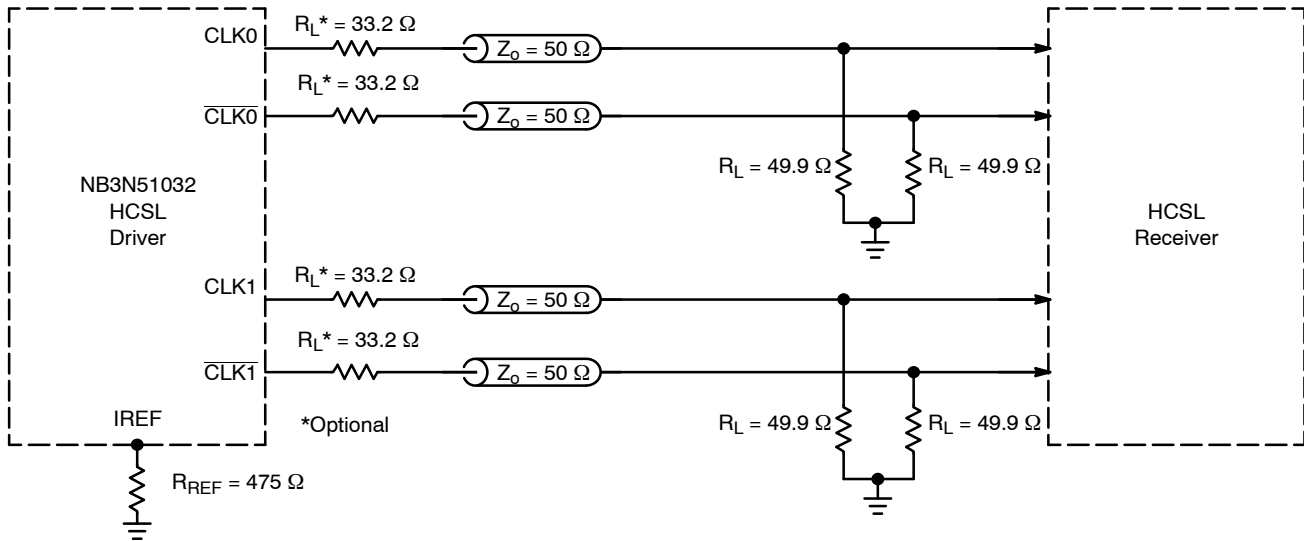
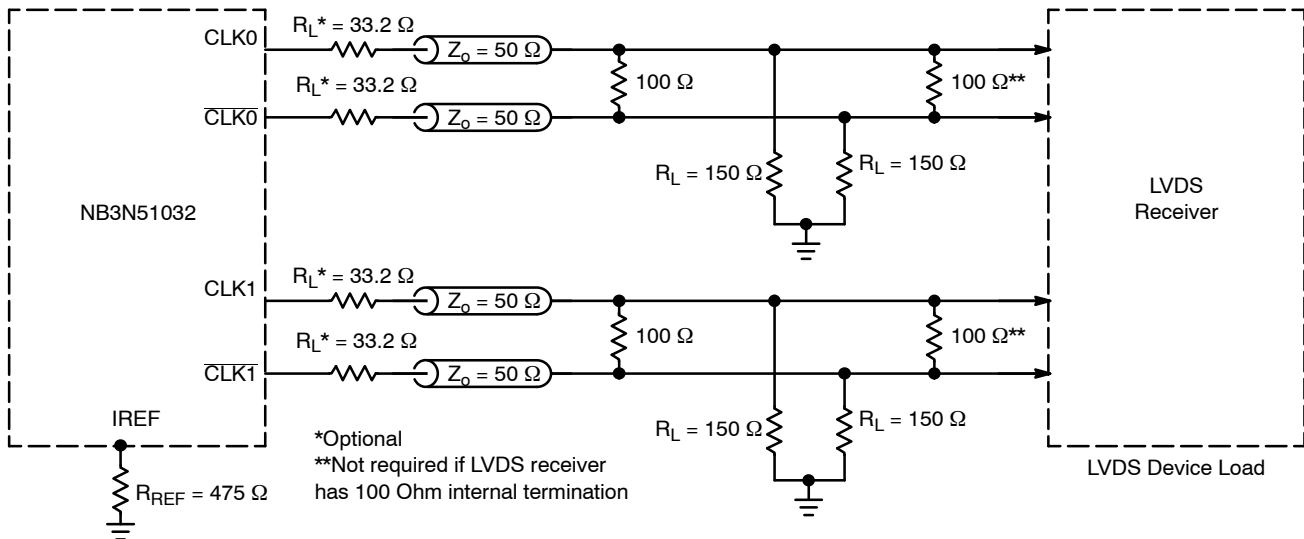

Figure 9. Typical Termination for Output Driver and Device Evaluation
Figure 10. Typical Termination for LVDS Device Load
4. VDDXD and VDDODA power pins must be shorted to power supply voltage VDD and GNDXD and GNDODA ground pins must be shorted to power supply ground GND. Measurement taken with outputs terminated with RS = 33.2 Ω, RL = 49.9 Ω, with test load capacitance of 2 pF and current biasing resistor set at 475 Ω. See Figure 9. Guaranteed by characterization.
9. VDDXD and VDDODA power pins must be shorted to power supply voltage  $V_{DD}$  and GNDXD and GNDODA ground pins must be shorted to power supply ground GND. Measurement taken from differential output on single-ended channel terminated with  $R_S = 33.2\ \Omega$ ,  $R_L = 49.9\ \Omega$ , with test load capacitance of 2 pF and current biasing resistor set at 475  $\Omega$ . See Figure 9. Guaranteed by characterization.
The outputs can be terminated to drive HCSL receiver (see Figure 9) or LVDS receiver (see Figure 10). HCSL output interface requires  $49.9\ \Omega$  termination resistors to GND for generating the output levels. LVDS output